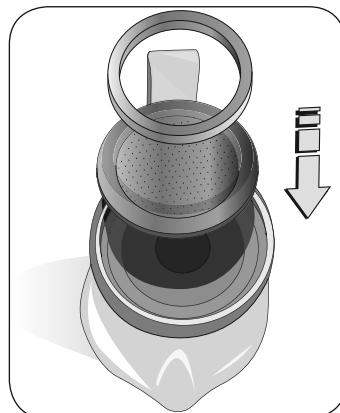

Fig. 5
When you remove the seal (E) and disc filter (D) for cleaning or replacement, make sure you correctly put them back in place so as to prevent splashes or spurts of hot water (Fig. 5).